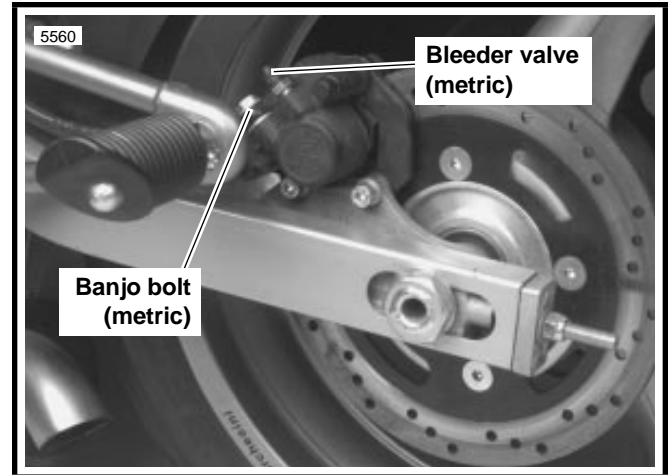

Figure 2-27. Rear Brake Caliper Banjo Bolt
2. See Figure 2-27. Remove banjo bolt (metric) and two gaskets to detach brake line from rear brake caliper. Discard gaskets.
6. See Figure 2-27. Position **new** gaskets on each side of caliper banjo fitting. Insert banjo bolt (metric) through gaskets and banjo fitting into caliper. Tighten banjo bolt to 9.5-12.5 ft-lbs (12.9-17.0 Nm). Install bleeder valve if removed. Refill master cylinder and bleed brakes. See BRAKES in Section 1.